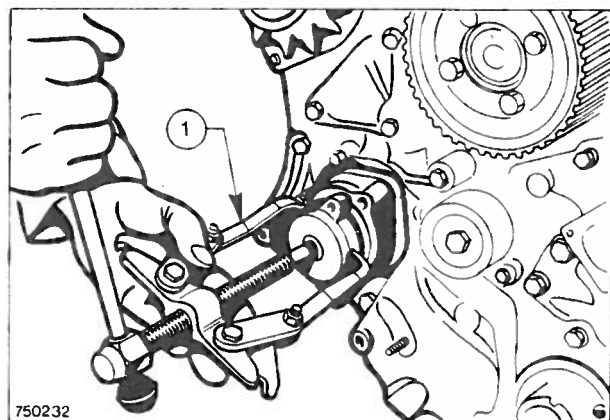

Fig. 10 Removing the exhauster pump/compressor hub
4. Remove the exhauster pump/compressor pulley and centre nut. Use a suitable puller to remove the hub, Fig. 10.